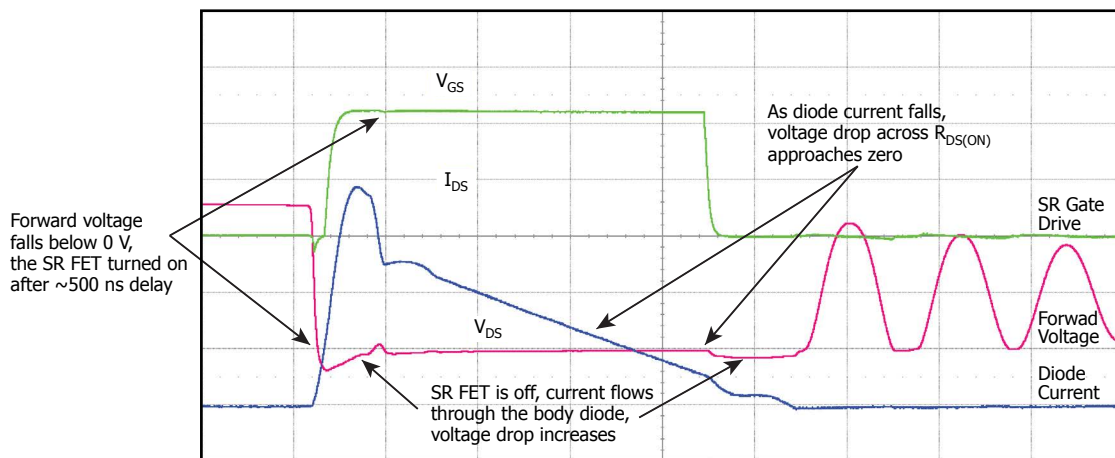

Figure 15. SR FET Turn-ON and Turn-OFF Events During DCM Operation.
InnoSwitch3 features a built-in synchronous rectifier (SR) driver that enables the use of low-cost low voltage MOSFETs for synchronous rectification and increases system efficiency. Since the SR driver is referenced to the output GND, the SR FET is placed in the return line. GND is the typical threshold that ensures the SR FET will turn off ($V_{SR(TH)}$) at the end of the flyback conduction time. There is a slight delay between the commencement of the flyback cycle and the turn-on of the SR FET in order to avoid current shoot through. During SR FET conduction the energy stored in the inductor is transferred to the load, the current will continue to drop until the voltage drops across the $R_{DS(ON)}$ of the SR FET drops to 0 V, at this point the SYNCHRONOUS RECTIFIER pin will pull the gate low to instantaneously turn off the SR FET. Minimal current will flow through the SR FET body diode during the remainder of the flyback time (see Figure 15). Putting a schottky diode across the SR FET may further increase efficiency by 0.1% – 0.2% depending on the design and SR FET used. In continuous conduction mode (CCM), the SR FET is turned off when a feedback pulse is sent to the primary to demand a switching cycle, providing excellent synchronous operation, free of any cross conduction between the SR FET and primary MOSFET.